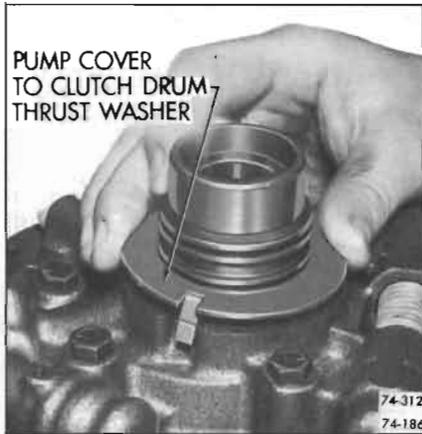

Figure 74-312
2. Grease and install selective fit washer to pump cover hub. See Figure 74-312.